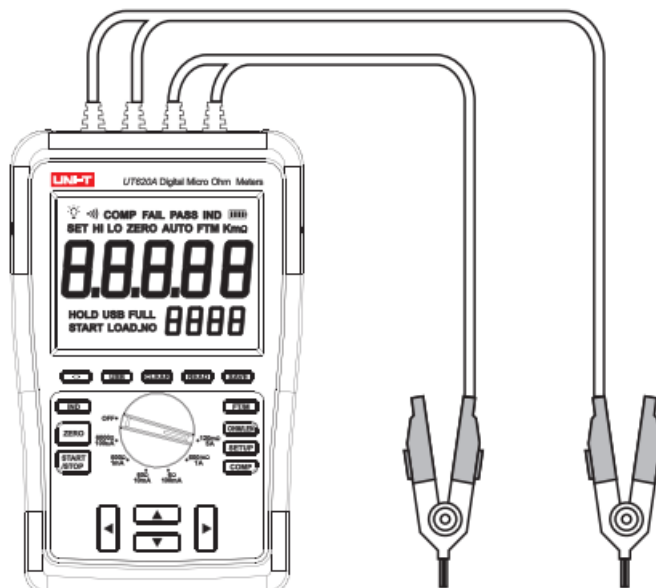

Figure 8:
1. Connect alligator clips to P1, P2, C1 and C2 terminals of the meter and to the object under test; P1 and P2 alligator clips are placed inward as shown in Figure 8